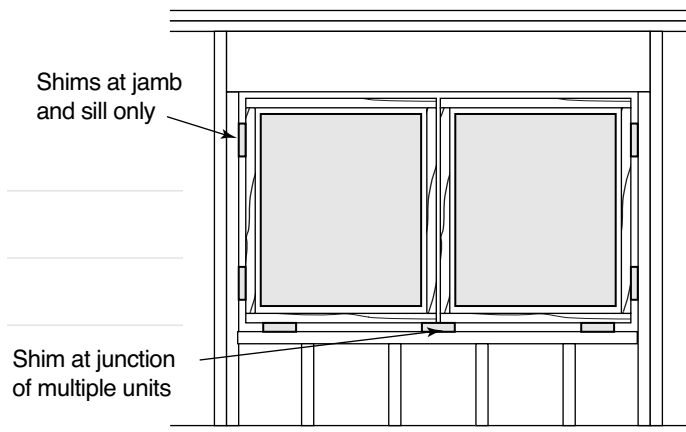

FIGURE 22
- ◆ Avoid using shims between the frame head and lintel to prevent loads from being transferred to the frame of the window or door. Shims should be used only at the frame jambs and sill. Any anchoring at the head should be with flexible straps to allow some spring action (see Figure 22).